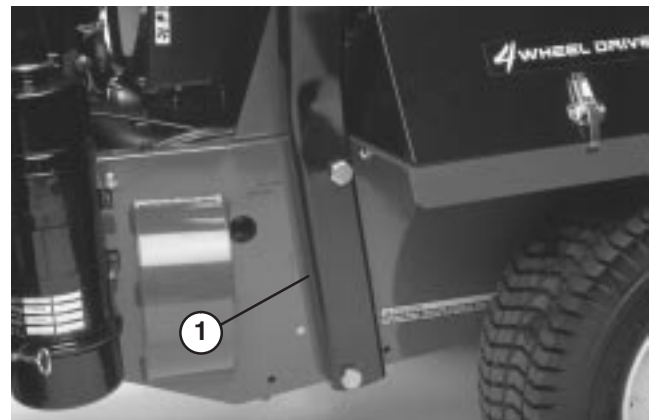

Figure 14
- Lower roll bar onto frame, aligning mounting holes as shown in Fig. 14.
2. Secure roll bar to frame with (4) 3/4 x 3-1/2" lg. bolts, lockwashers, and nuts (Fig. 14). Tighten securely.